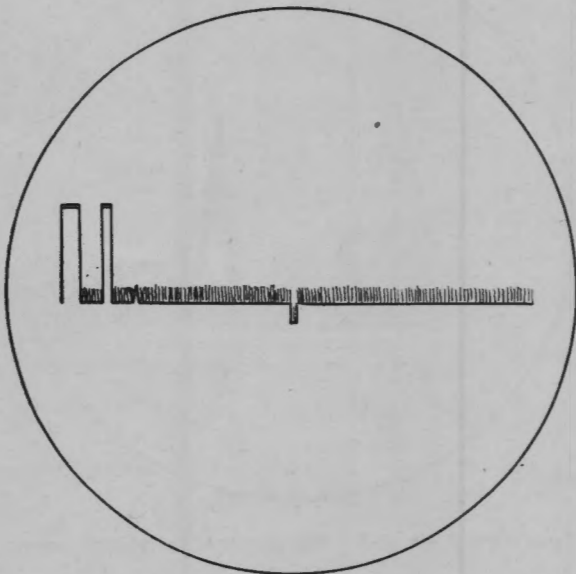

Figure 4 Mk. 3/Mk. 4-6. Double range echo.
3. If the other ship is close enough, two pips will be observed on the range scope. The closest pip will be saturated and the second pip will probably be quite small. The second pip will be at approximately twice the range of the first pip. (See fig. 4 Mk. 3/Mk. 4-6.)
6. After securing the zero adjustment nuts, the transmitted pulse is cranked back to the notch and placed as though making a zero set. The minus zero set is noted when the transmitted pulse is as shown in figure 4 Mk. 3/Mk. 4-5.